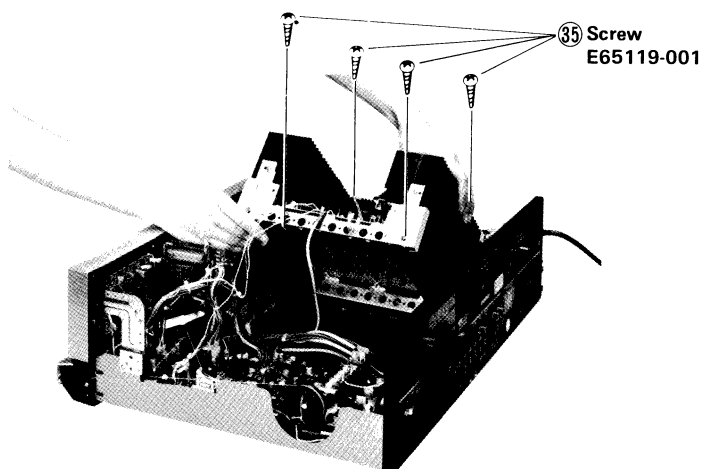

Fig. 8
3. Carefully remove TAP-273A with its heat sinks in the manner shown in Fig. 8